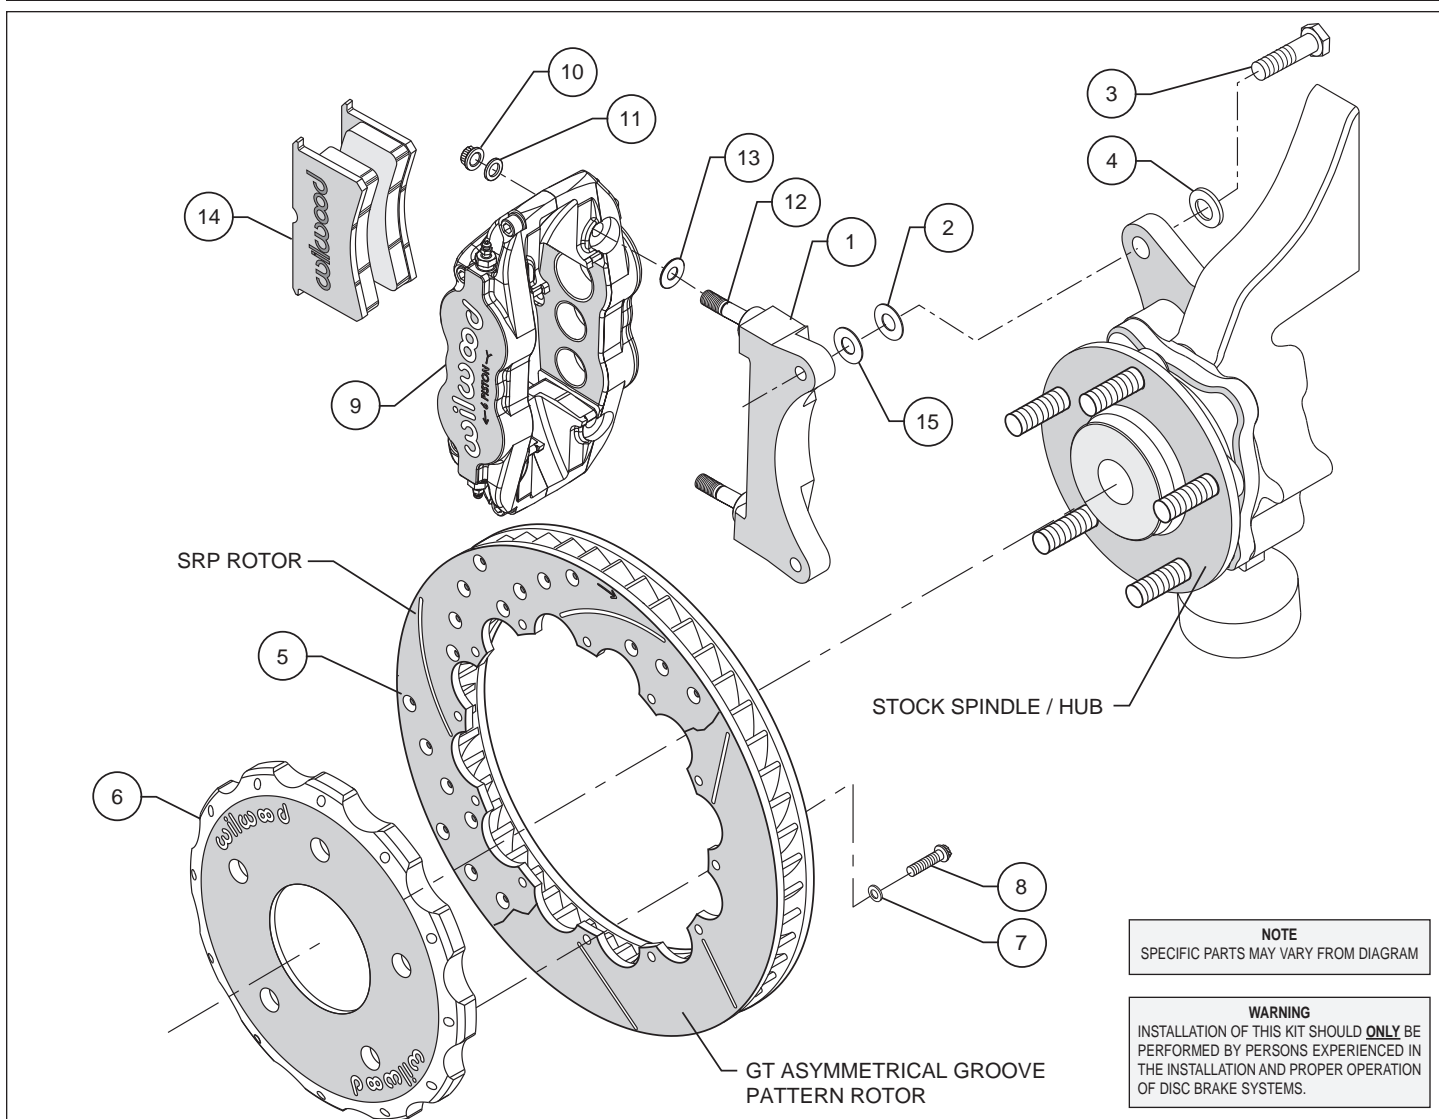

Figure 1. Typical Installation Configuration
- The caliper mounting bracket assembly (1) should be installed first with clean, dry threads on the mounting bolts. Install the bracket from the front side of the spindle by sliding bolt (3) through washer (4), and spindle ear. Place shim washer (2) between the bracket (1) and the spindle (see Figure 1). The bracket must tighten squarely against the side of the spindle body. Inspect for interference from casting irregularities, machining ridges, burrs, etc. Use one thin shim (2) between the bracket (1) and spindle during initial trial fitting.
- NOTE:** This kit contains distinct right and left hand calipers that must be mounted in a specific direction, as described below. Lubricate the caliper mounting studs (12) with lightweight oil. Initially place one .035" thick shim (13) on each stud as shown in Figure 1. Mount the caliper (9) onto the bracket (1) using lock nuts (10) and washers (11), Figure 1. Ensure that the caliper is mounted so that the largest pistons are at the rotor exit end of the caliper, in relation to the direction of rotor rotation. Temporarily tighten the lock nuts and view the rotor through the top opening of the caliper. The rotor should be centered in the caliper. If not, adjust by adding or subtracting shims (2 and/or 15)) between the bracket and the upright. Always use the same amount of shims on each of the two mounting bolts. Once the caliper alignment is correct, remove the bracket mounting bolts one at a time, apply red *Loctite*® 271 to the threads, and torque to 60 ft-lb.
- Remove the caliper center bridge pad retainer bolt, nut, and tube from the caliper. Slide the brake pads (14) into place. They should install easily without interference. Check that the outside radius of the brake pad is aligned with the outside diameter radius of the rotor face. Add or subtract shims (13) between the caliper and mount bracket to gain the proper alignment. Reinstall the center bridge pad retainer tube, bolt, and locknut. The locknut should be snug without play in the bolt or tube. Be cautious not to over tighten.
- Once all clearances have been checked, remove the wheel, caliper, hat, and rotor from the spindle and hub. Secure the caliper mounting bracket (1) to the spindle with bolt (3) using red *Loctite*® 271. Torque bolt (3) to 60 ft-lb. Reinstall the hat and rotor assembly and again use lug nuts to hold it in place. Lubricate caliper mounting studs and nuts with lightweight oil, reinstall the caliper, torque the caliper nuts (10) to 30 ft-lb.